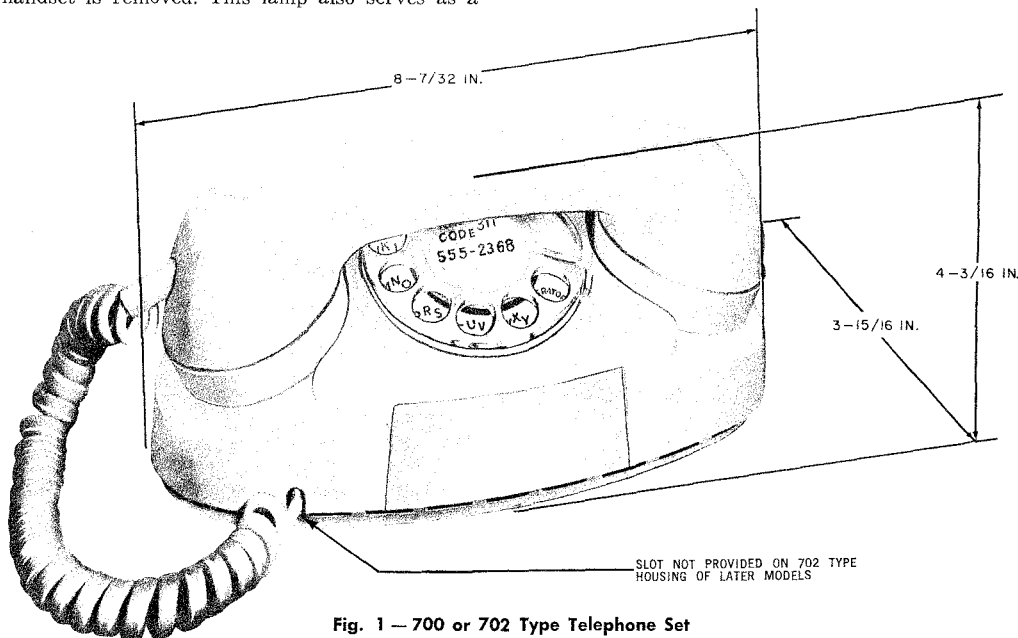

Fig. 1 — 700 or 702 Type Telephone Set
1.01 This section covers PRINCESS® telephone sets equipped with rotary dials (Fig. 1).